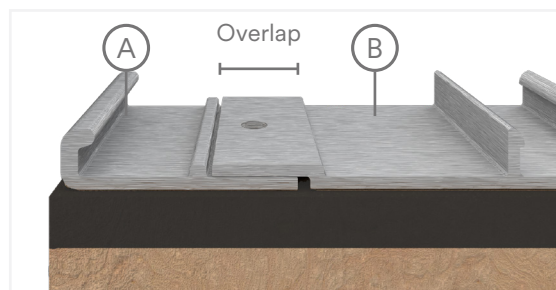

Fig. 6
3. Overlap one end of the pre-assembled Clip Strip with the Starter Clip so that the holes in each are aligned (Fig. 6).